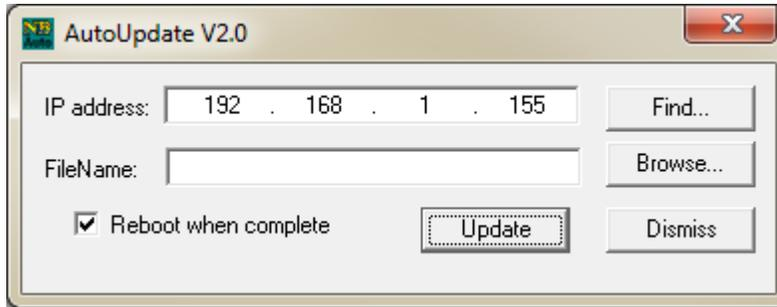

Figure 16 AutoUpdate Screen
1. Double click on the AutoUpdate icon and Figure 16 will be displayed.